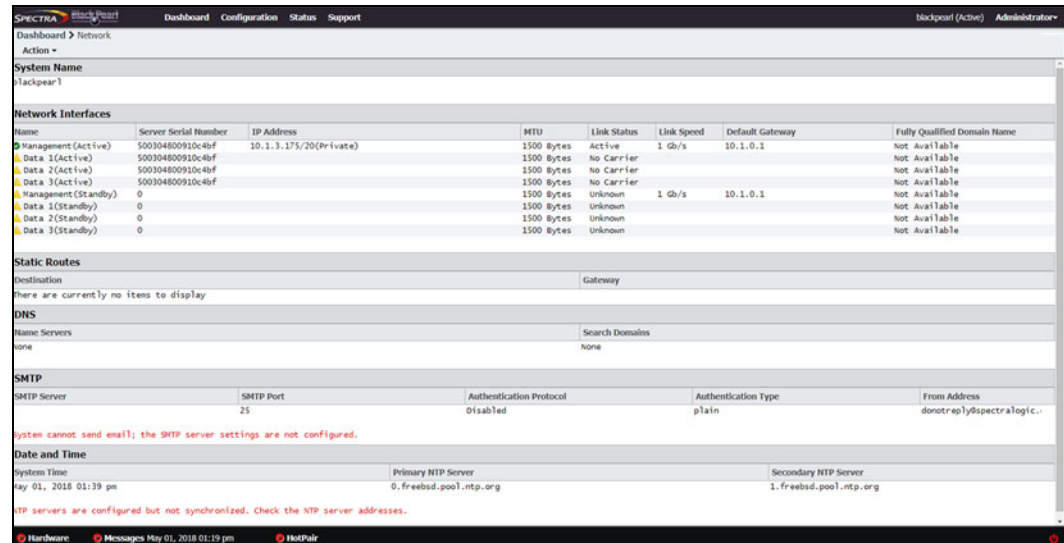

Figure 8 The Network screen.
1. From the menu bar, select **Configuration** **Network**, or select the Network pane from the Dashboard screen. The Network screen displays. See Figure 8 on page 20.
1. From the menu bar, select **Configuration** ... **Network**, or select the Network pane from the Dashboard screen. The Network screen displays (see Figure 8 on page 20).
1. From the menu bar, select **Configuration** \gg **Network**, or click the Network pane on the Dashboard screen. The Network screen displays. See Figure 8 on page 20.
1. From the menu bar, select **Configuration**  **Network**, or click the Network pane on the Dashboard screen. The Network screen displays. See Figure 8 on page 20.